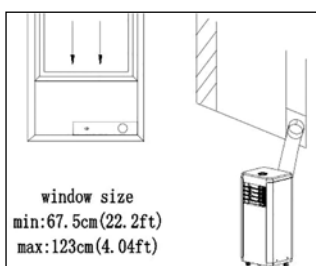

Fig. 4
- 4 Affix the hose outlet into the window slider kit and seal. (Fig.4 & 5).